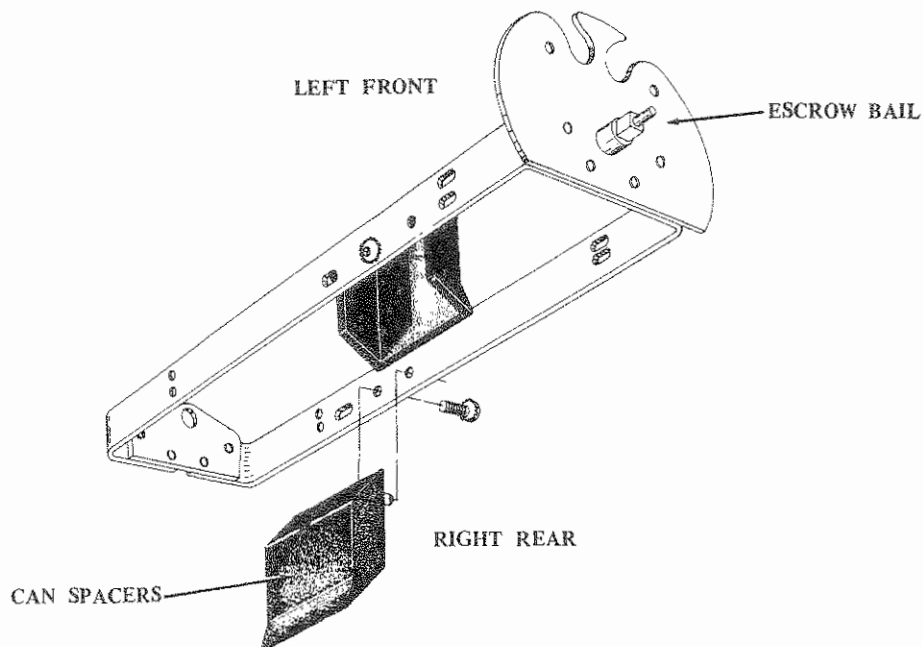

Figure 18
7. Add can spacers (blocks) to escrow bails with longer screws provided with conversion parts. (See Figure 18).